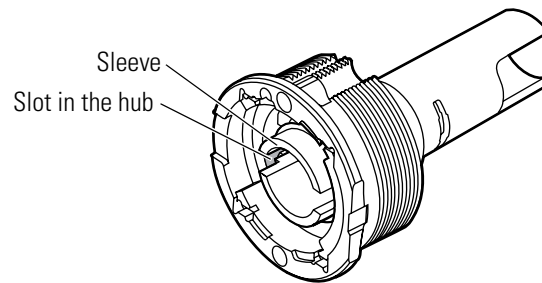

Figure 3.27 Positioning the sleeve
1. Align the sleeve so that the deep slot in the sleeve lines up with the slot in the hub, as shown in Figure 3.27.
2. Place the spring drive plate over the sleeve as shown in Figure 3.27.